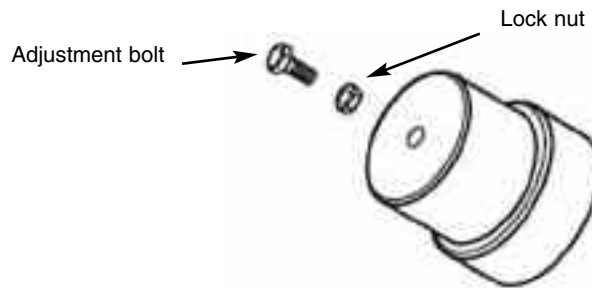

Figure 5-3 Air/Oxygen Pressure Regulators Adjustment
- 11 To adjust the Air Inlet Pressure Regulator, use a 5/16” open-ended wrench to loosen the bottom lock nut (see Figure 5-3). Using a 1/4” open-ended wrench, rotate the top adjustment bolt to adjust the pressure. Rotate the bolt clockwise to increase the pressure and counter clockwise to decrease the pressure. When the value of **“Air Gas Supply”** is 15.0 ± 0.5 psig, secure the bottom lock nut.